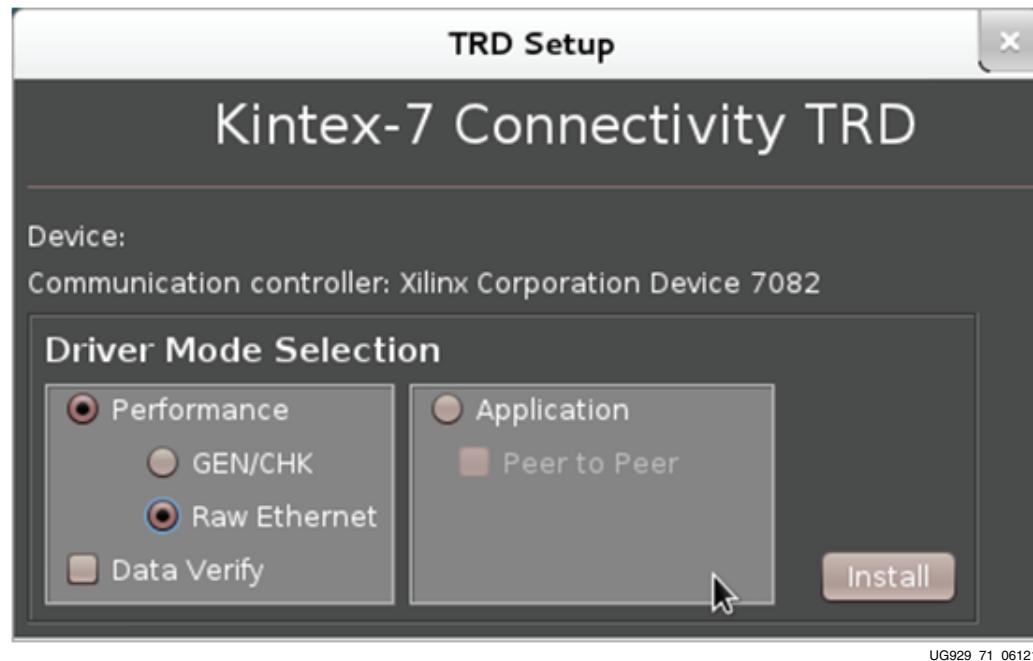

Figure 2-11: Raw Ethernet Driver Installation
9. Select **Raw Ethernet** performance as shown in Figure 2-11. Click **Install**.